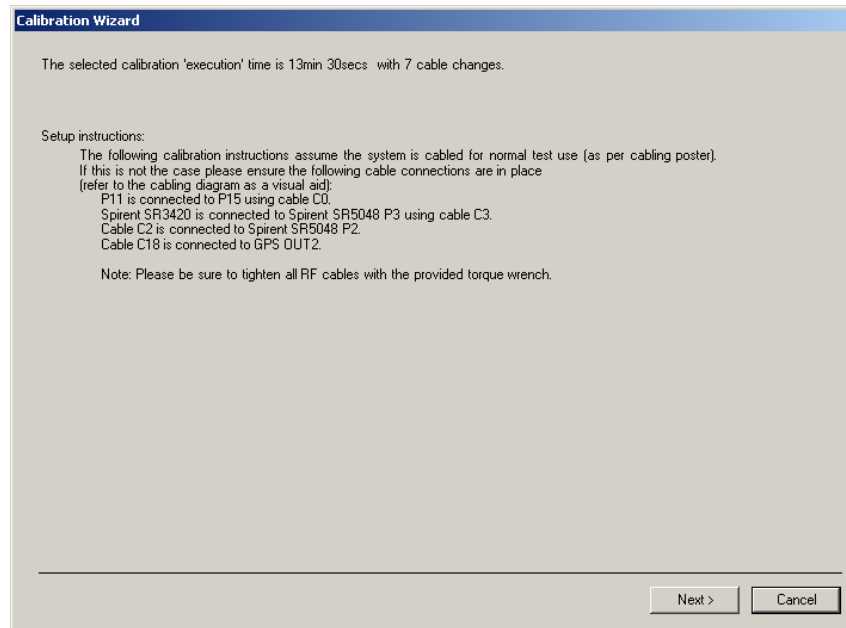

Figure 4-7: Location Based Calibration Initialization (A500 Platform)
2. The initial *A500 Calibration Wizard* window displays, as shown in Figure 4-7.